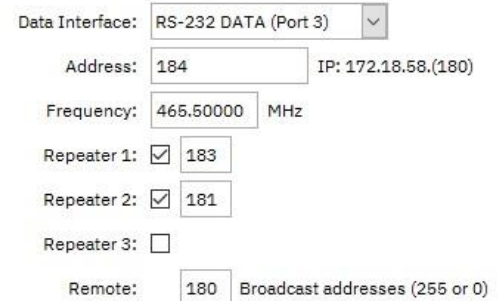

Figure 17: Remote Site Routing Configuration
- Set the destination address as the path to the Master site (183,181,180). See Figure 17.